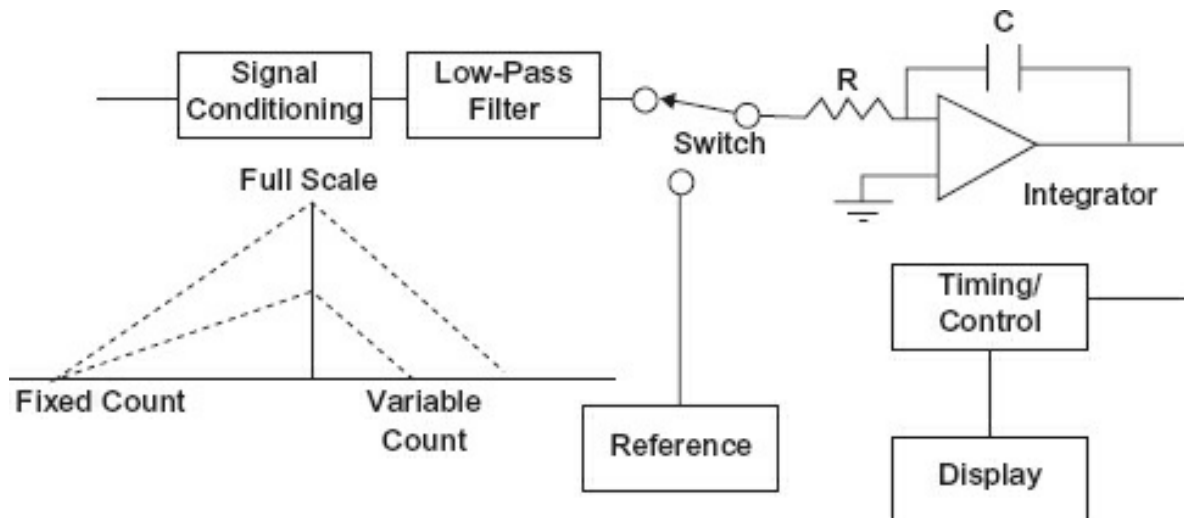

Figure 8-11. Dual-slope operation.
Figure 8-11 is a simplified block diagram of a dual-slope A/D converter. The operation has two distinct phases. The capacitor (C) is connected to the unknown input voltage for a fixed time (or number of counts). The capacitor and the resistor (R) form a time constant. The capacitor will charge through the resistor to an amount that is proportional to the input voltage.
(theoretically) is the reference voltage. Figure 8-11 illustrates the integrator output versus the charge/discharge times. Note that the charge time is a fixed number of counts, and at the end of the fixed period, the integrator output value depends on the input voltage.